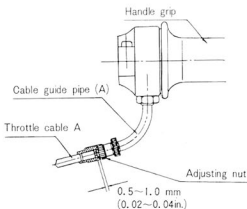

Fig. 2-3-3
b. Next, adjust the slack of the throttle cable A to 0.5-1.0 mm with the adjusting nut installed on the cable guide pipe. (See Fig. 2-3-3).